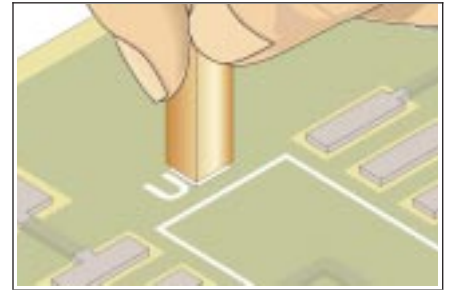

Figure 1 Apply legend using a peg stamp.
6. Gently press the peg stamp onto the desired location on the printed wiring board surface. (See Figure 1.)